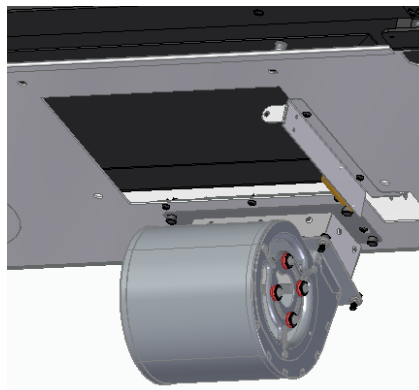
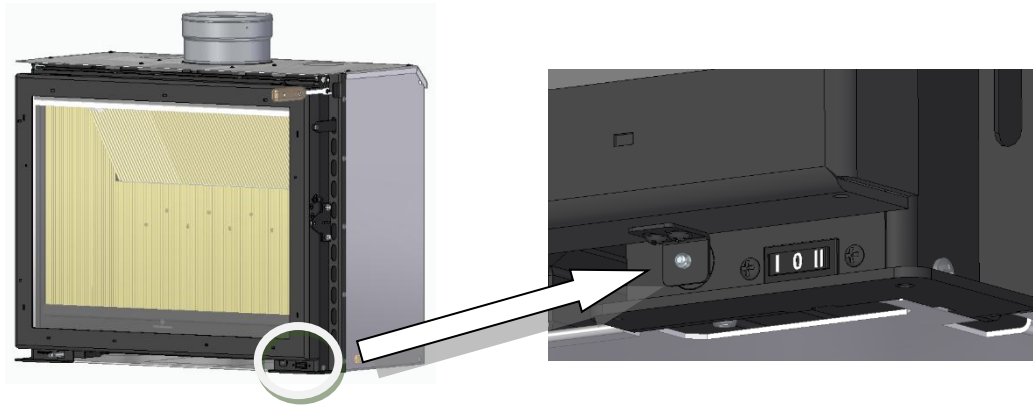

Figure 48 – Fixing the ventilation kit in the E909 and E809 units
Figure 50 – Door handle adjustment, micro-switch actuation
b. Fixing the ventilation kit underneath the equipment, on the bottom, as shown in the picture, see Figure 48.
d. After placing the components in the equipment, Figure 48, you must adjust the switch that is under the door, so that the door after closing the switch activates the micro-switch, see Figure 50.